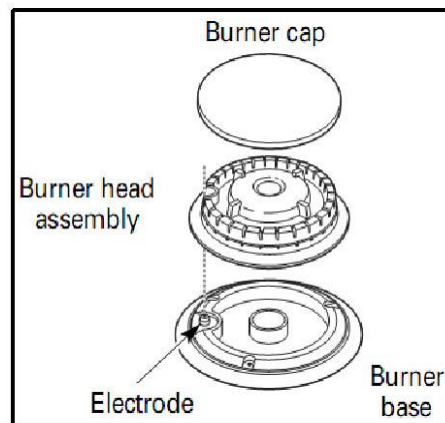

Figure 4
- Place a burner cap on each burner head (see Figure 4), matching the cap size to the head size. The cap for each burner has an inner locating ring which centers the cap correctly on the burner head. Be sure that all the burner caps and burner heads are correctly placed BEFORE using your appliance.